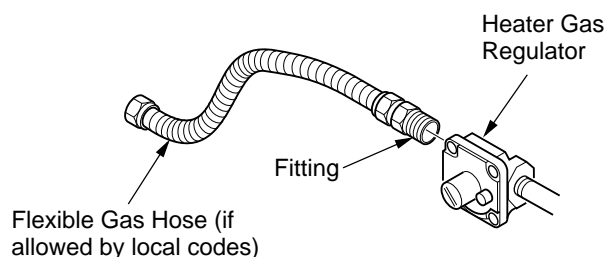

Figure 11 - Attaching Flexible Gas Hose to Heater Gas Regulator (Variable Manually-Controlled and Thermostat-Controlled Models Only)
1. Apply pipe joint sealant lightly to male threads of gas fitting (not provided). For Variable Manually-Controlled and Thermostat-Controlled Models connect approved flexible gas hose to gas regulator of heater (see Figure 11, page 12). For Remote-Ready models connect approved flexible gas hose to gas control fitting in heater (see Figure 12, page 12).